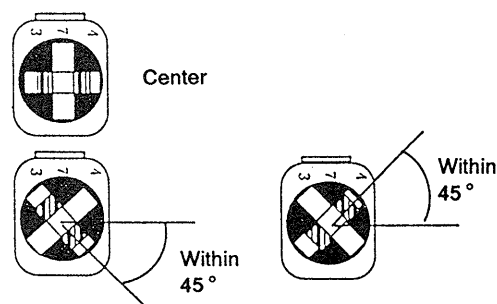

Fig. 8-1.
- At this time, if the RV701 and RV702 rotated more than the angle shown in Fig. 8-1 (normally, the rotation angle is within $\pm 45^\circ$ from the center), the suspension (spring) of pick-up will be deformed. Playing the LD under this condition could cause the images to be disturbed in the vicinity of outside. Replace the optical pick-up.